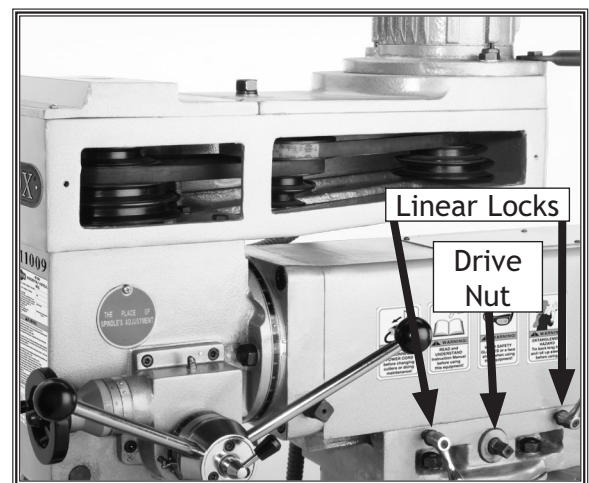

Figure 13. Location for forward/backward movement controls.
2. Loosen the two linear lock handles that lock the travel (see **Figure 13**).
3. Place the knee travel handle on the drive nut (**Figure 13**) and rotate it either clockwise or counterclockwise until the spindle is in the desired position.